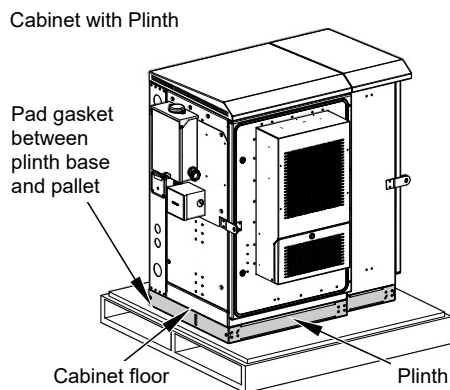

Figure 11. Pad Gasket Removal from Pallet
1. Open the door and rear panel to locate and remove pallet bolts (six places) from front and rear corners on cabinet floor or base of plinth; Figure 11.
- Pad gasket is between the cabinet floor or base of plinth on pallet. Use pad gasket as a template to drill anchor holes into the concrete; Figure 11, & 13.